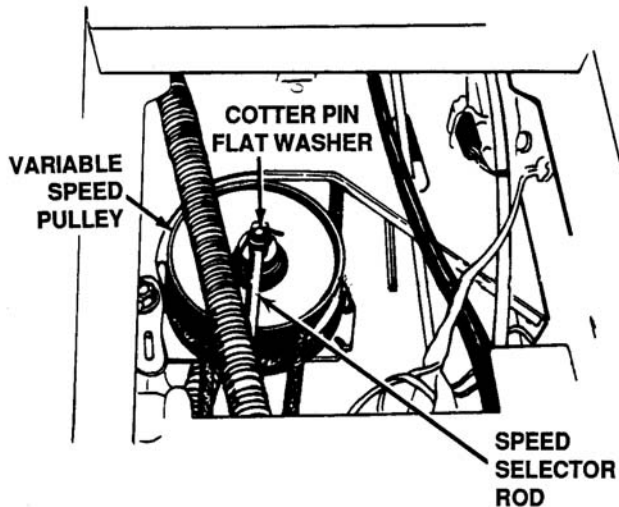

Figure 7-52. Location of Speed Selector Rod
- b. Disconnect the speed selector rod from the variable speed pulley by removing the cotter pin and flat washer and lifting rod off the 3/8 inch pin. See Figure 7-52.